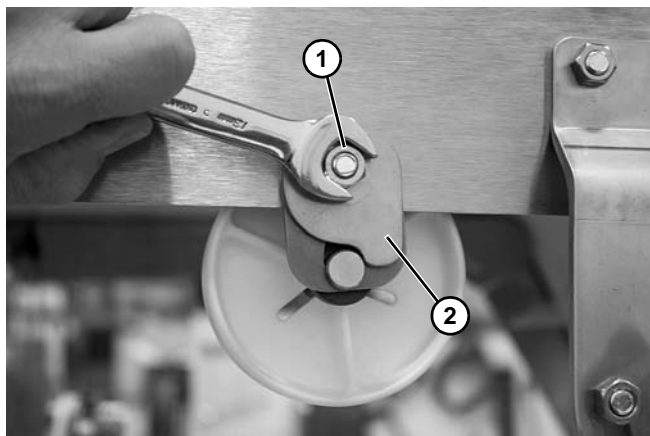

Figure 65
1. Loosen nut (**Figure 65, item 1**) and rotate return clip (**Figure 65, item 2**) up on both sides of conveyor. Loosely tighten nuts to hold clip in place.